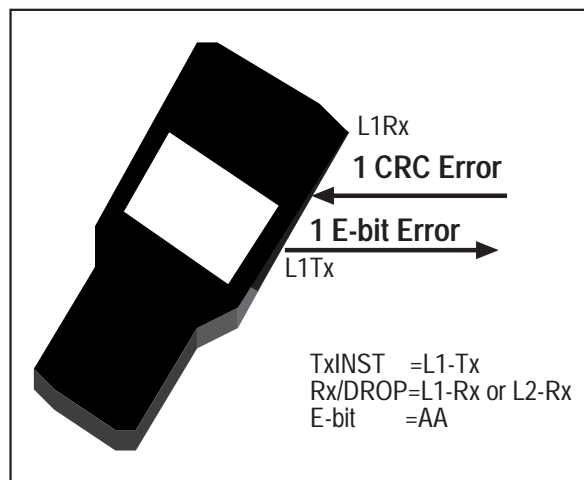

Figure 88 Automatic E-Bit Transmission
- Refer to Figure 88, Automatic E-BIT Transmission.